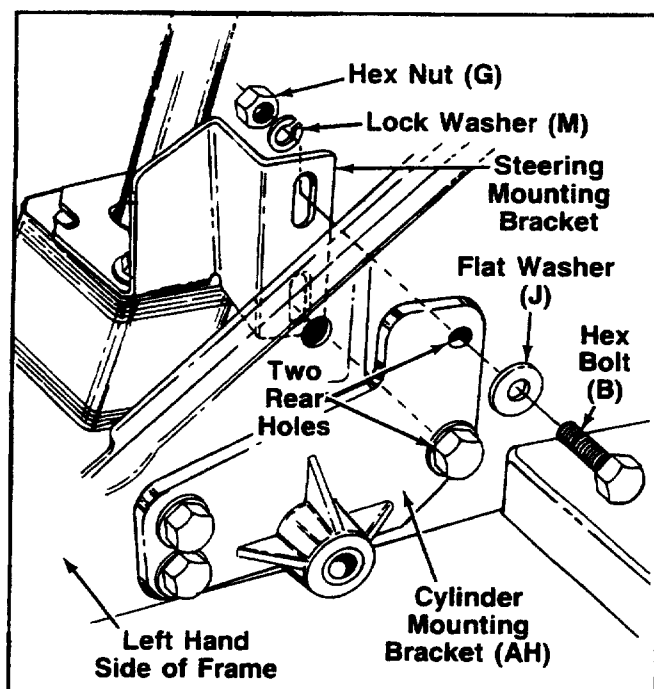

FIGURE 17.
- B. Secure the cylinder mounting bracket to tractor frame with two hex bolts (B), flat washers (J), lock washers (M) and hex center lock nuts (G). See figure 17. Tighten securely.